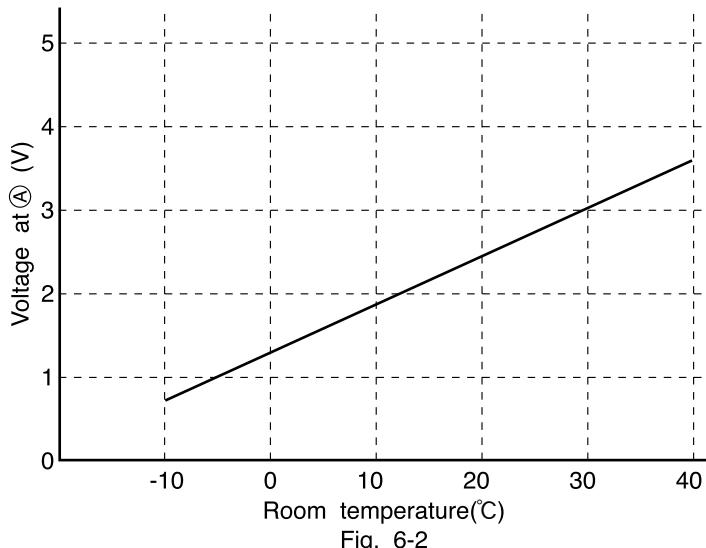

Fig. 6-2
- (1) Preheat.
- (2) Low-temperature defrosting during cooling and dehumidifying operation.
- (3) Detection of the reversing valve non-operation or heat exchanger temperature thermistor open.
The voltage at ④ depends on the heat exchanger temperature as shown in Fig. 6-2